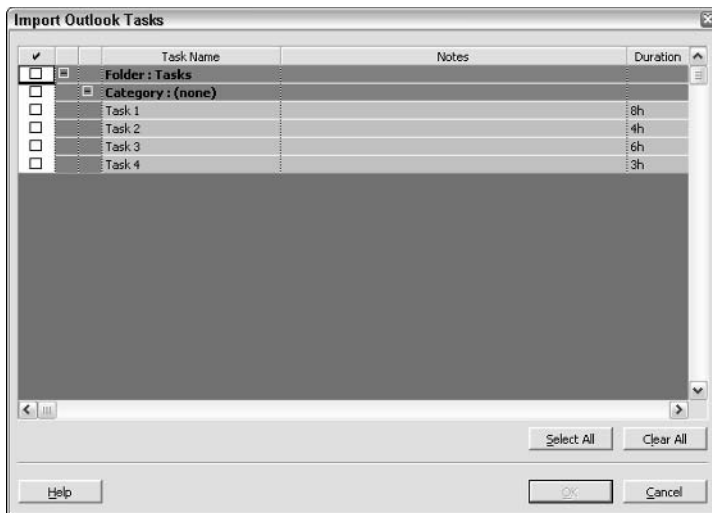

Figure 26-26: In this dialog box, mark the tasks that you want to import into Project.
1. In Project, choose Tools→Import Outlook Tasks. Project displays the Import Outlook Tasks dialog box, as shown in Figure 26-26.